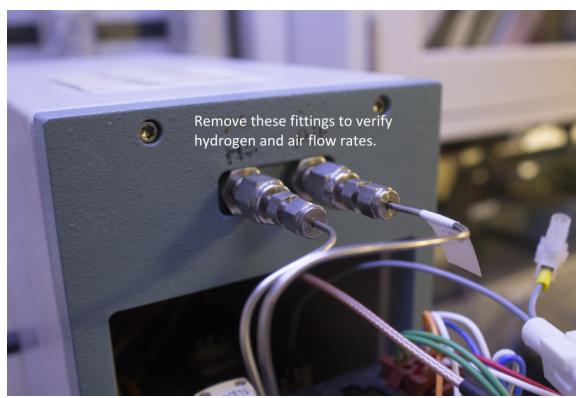

Figure 7: Hydrogen and air supply lines to the FID
5. Check gas flow rates by removing the instrument panel covering the FID castle (Figure 7). Gas flow rates can be manipulated by rotating the valves on the rear of the instrument IR Section.